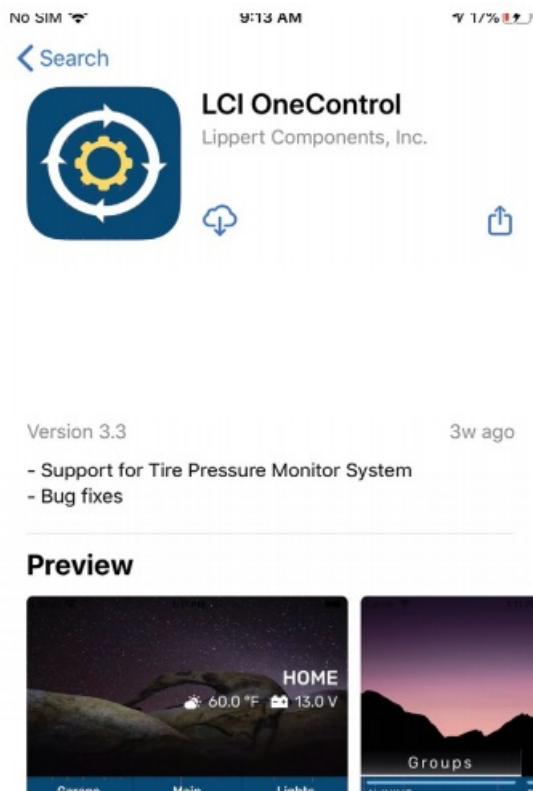

Fig.3
1. Download the LCI OneControl app (**Fig.3**) for either an iOS or Android smart phone.